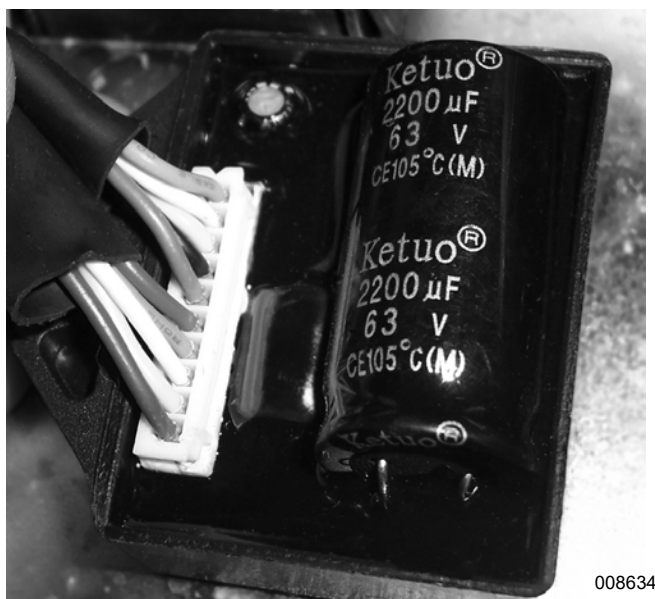

Figure 1-39. J1 Connector on LED Module
1. See Figure 1-39. Remove electrical panel so the LED module is exposed and disconnect J1 connector.